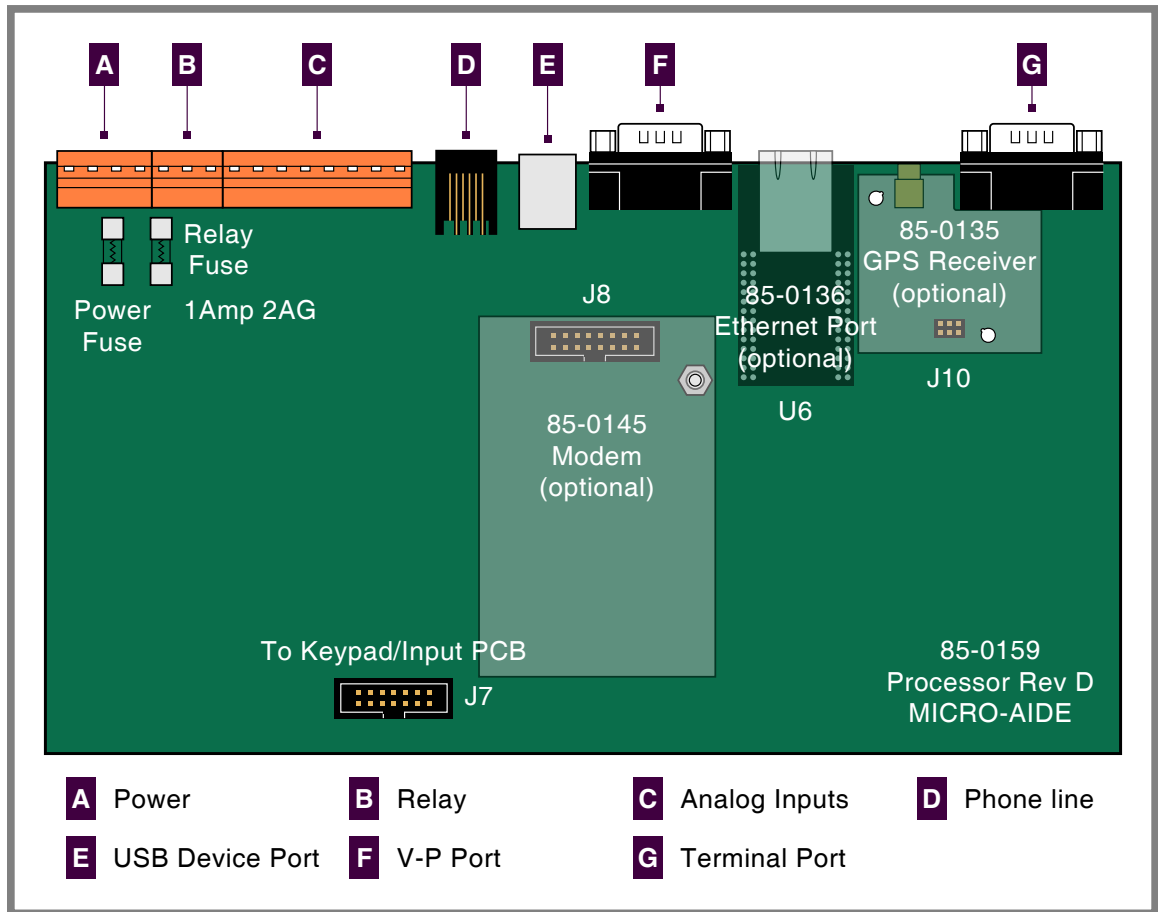

Figure 6: Processor PCB
There are two fuses mounted on the Processor PCB. The fuses are designed to protect the input power source and the contacts of the output relay. Each are rated at 1 A and conform to the 2AG size standard. Before replacing a fuse the cause of the blown fuse should be ascertained and cleared if possible. The fuses are illustrated in Figure 6 on page 79.
Generally, the GPS Receiver is ordered at the time the logger is purchased and is pre-installed at the factory. If the receiver was not previously ordered, it can be installed by the user. To install the receiver follow the steps listed in the following. The GPS Receiver PCB is illustrated in Figure 6 on page 79.
3. Locate the 6-pin female socket labeled "J10" near the top-right edge of the Processor PCB. The socket is illustrated in Figure 6 on page 79.
Generally, the modem PCB is ordered at the time the logger is purchased and is pre-installed at the factory. If the modem was not previously ordered, it can be installed by the user. To install the modem follow the steps listed in the following. The modem is illustrated in Figure 6 on page 79.
2. Locate the 16-pin female socket labeled "J8" near the center of the Processor PCB. The socket is illustrated in Figure 6 on page 79.
3. Locate the 56-pin female socket labeled "U6" along the upper edge of the Processor PCB. The socket is illustrated in Figure 6 on page 79.